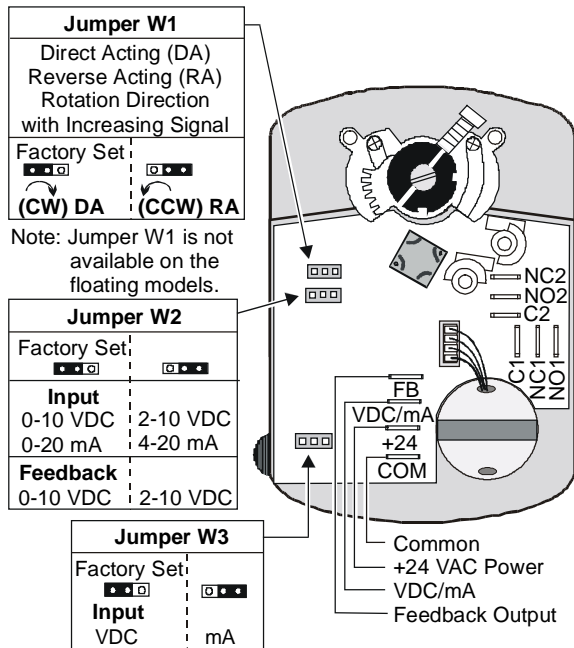

Figure 2: Calibrating the GGx Models
The M9109-GGx-4 proportional actuators are factory set for Direct Acting (DA) mode with Jumper W1 in the DA position. Remove Jumper W1 and place it in the RA position. (See Figure 2.)
The VDC/mA terminal is the control input signal. Jumper W3 must be in the VDC position for voltage input and in the mA position for current input. The FB Terminal is the feedback output. (See Figure 2.)